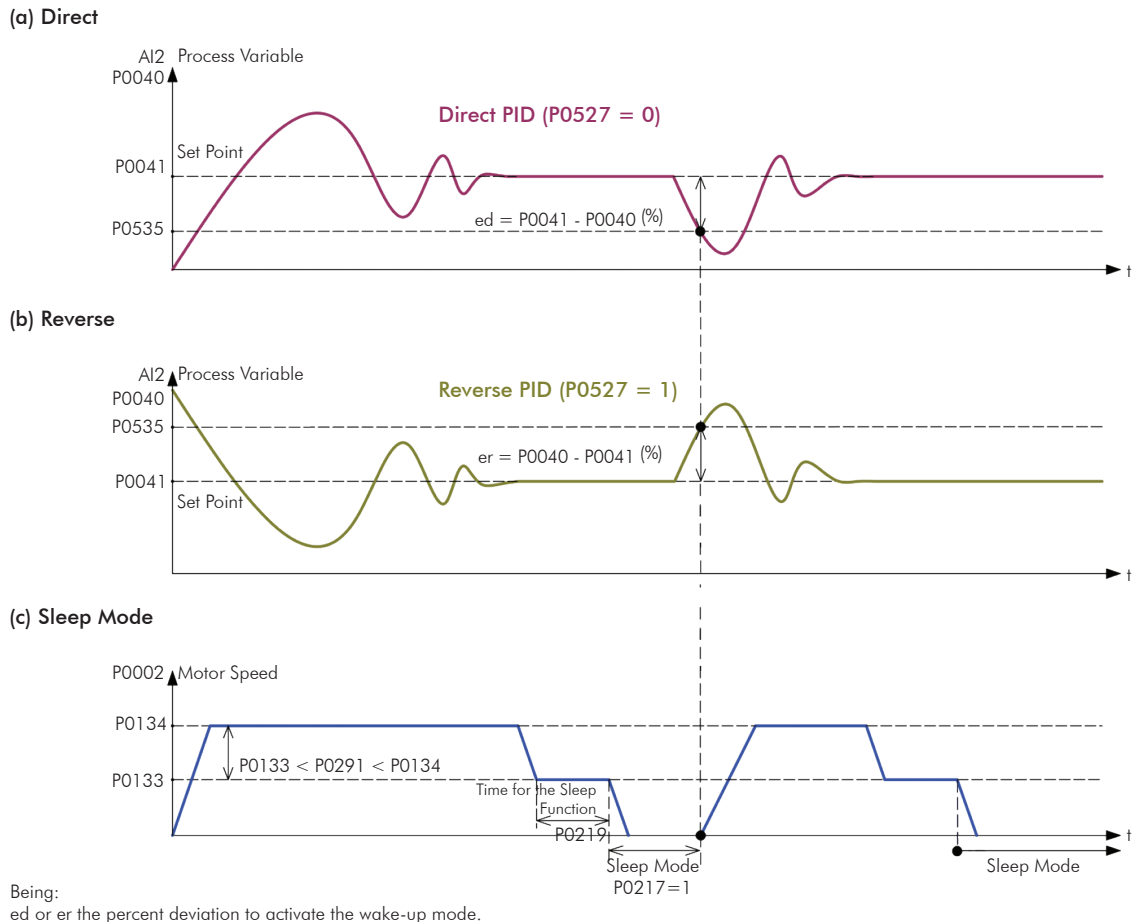

Figure 20.2 - (a) to (c) - PID action type
2) **To define the type of PID action** that the process requires: direct or reverse. The control action must be direct (P0527 = 0) when it is necessary that the speed increases for the process variable to increase. Otherwise, select reverse (P0527 = 1). See Figure 20.2 on page 20-4.
The sleep mode is a useful resource for saving energy when using the PID regulator. Refer to the Figure 20.2 on page 20-4.
However, the P0291 setting must be: P0133 < P0291 < P0134. Refer to the Figure 20.2 on page 20-4.